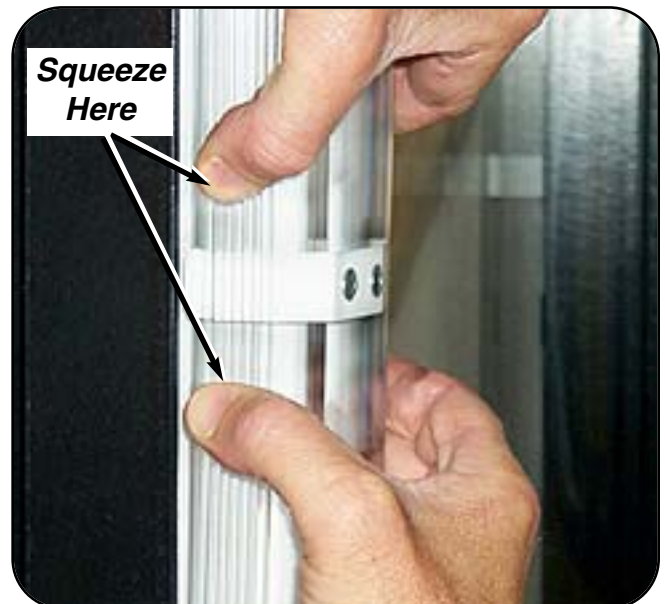

Figure 19. Disengaging Diffuser Clips
2. Disengage the diffuser clips from the mullion by squeezing the diffuser cover at the clips. Two hands may be required as shown in Figure 19.